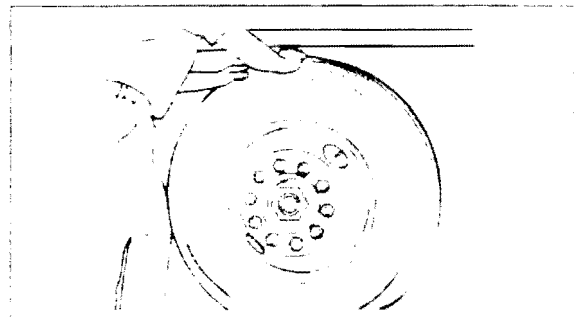

Figure 1
4. Grasp the tire and wheel end assembly at the 12 and six o'clock positions. Check for vertical and horizontal movement. With your hands, apply approximately 50 lb (23 kg) of force to the assembly. You should not feel or see any looseness or movement. Figure 1.